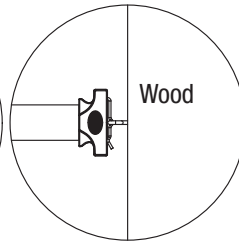

Figure 3
3. If necessary, the eyelet terminal can be used to fix the tape on wooden or masonry walls by means of an expansion bolt. (fig. 3 e 4 )